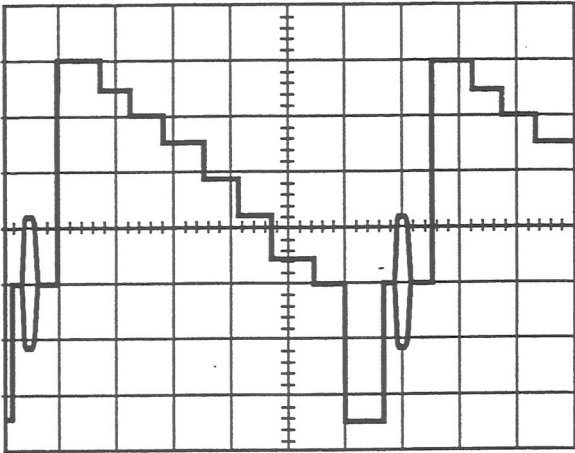

figure 11
- . positive edge (15): (LED off)
- . sweep speed (18): 10  $\mu\text{s}/\text{div}$
- Select the appropriate vertical sensitivity for the amplitude of the signal, so that the image covers approximately 80% of the height of the screen. Adjust the alignment as required. The image displayed corresponds to a complete TV line (64  $\mu\text{s}$ ). The sync pulse, chrominance burst and video content are clearly visible (figure 11).